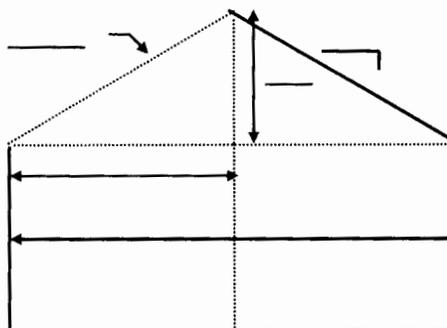

FIGURE 10-12
13. Write in the roof properties listed below in the appropriate locations on *Figure 10-12*.